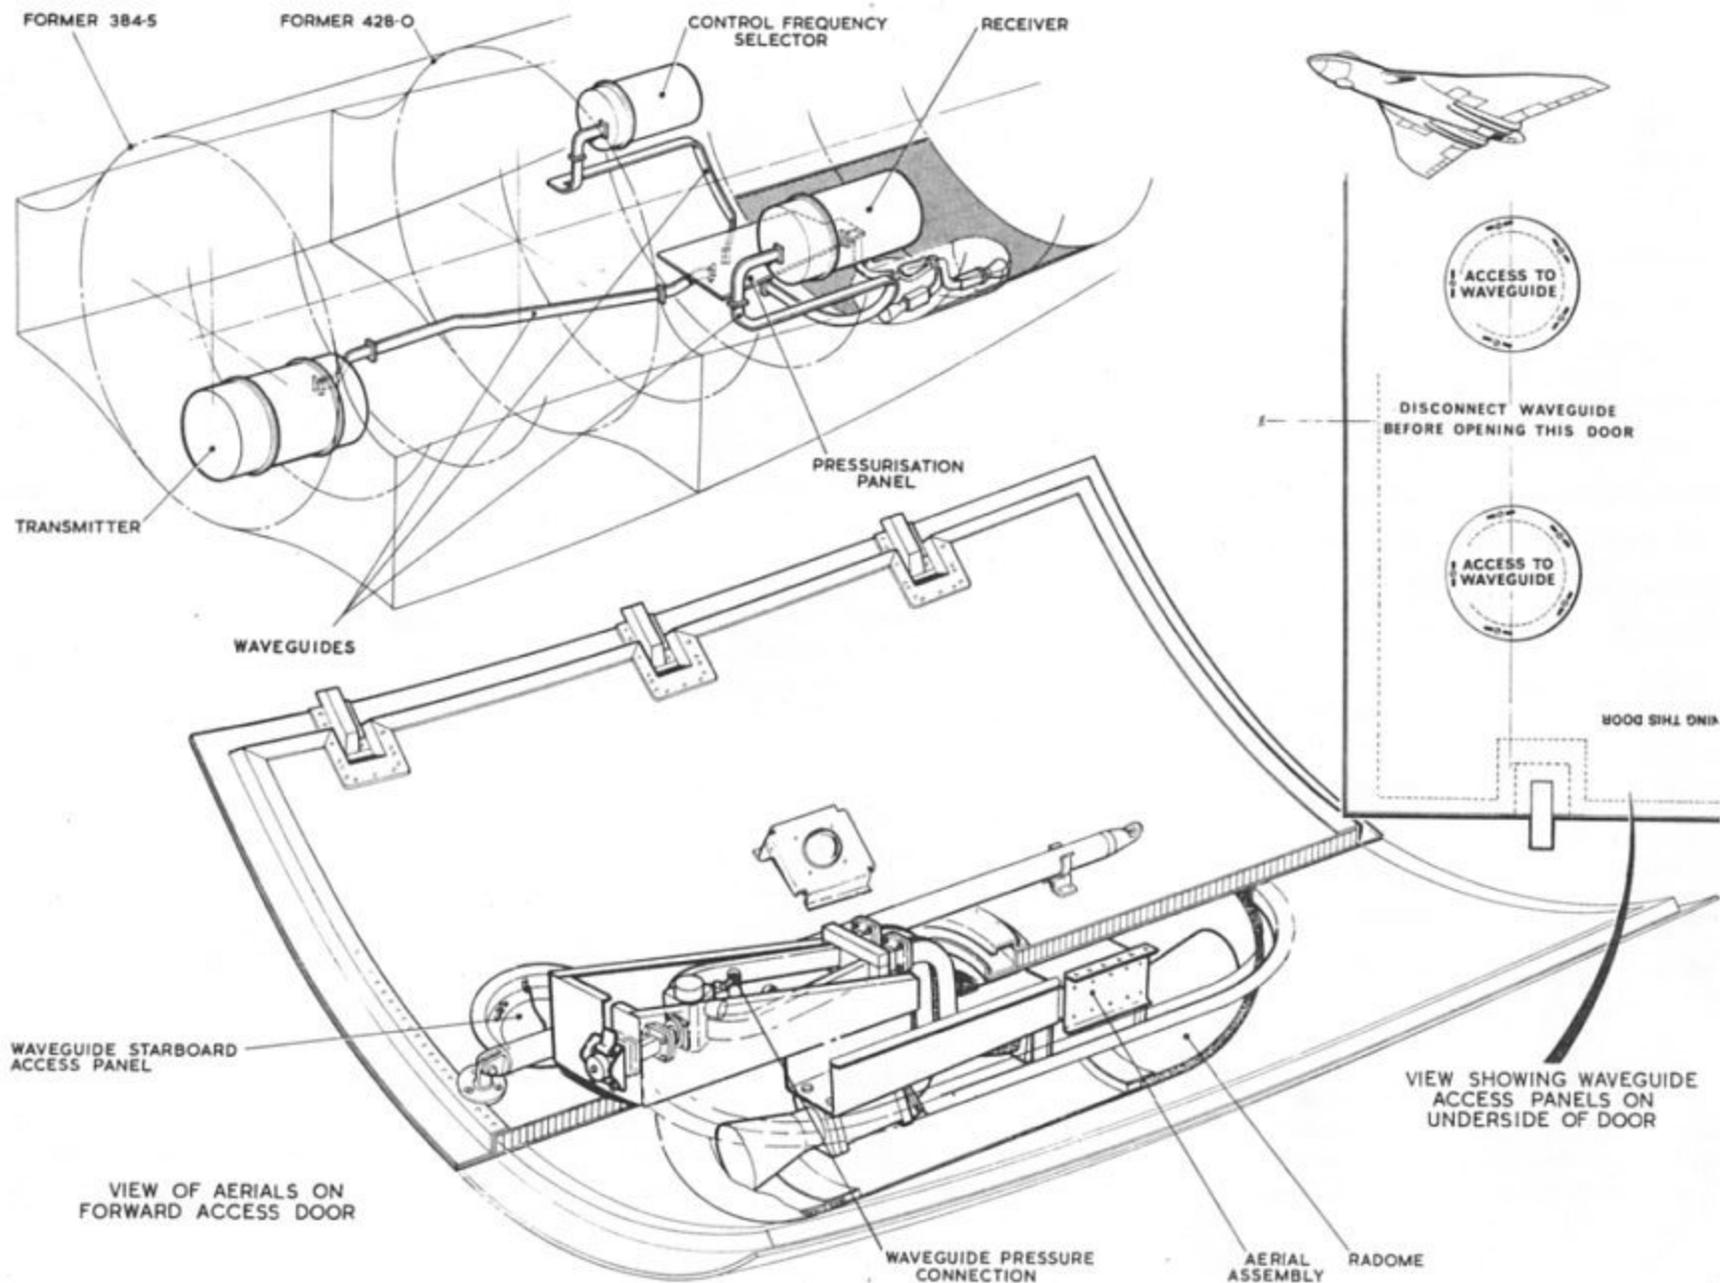

Fig. 2 Waveguide and aerial installation
9. The aerials are fitted to a bracket attached to the forward main access door at former 22.25 (fig.2). The assembly is enclosed by a small radome and a streamlined removable fairing. Two round access panels